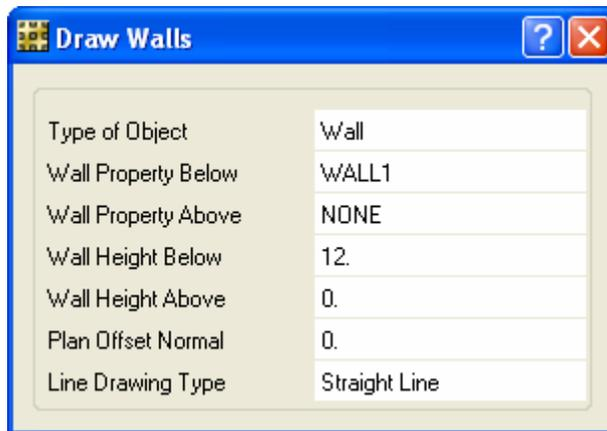

Figure 24 Draw Walls form
- A. Click the **Draw menu > Draw Walls** command to access the Draw Walls form shown in Figure 24.